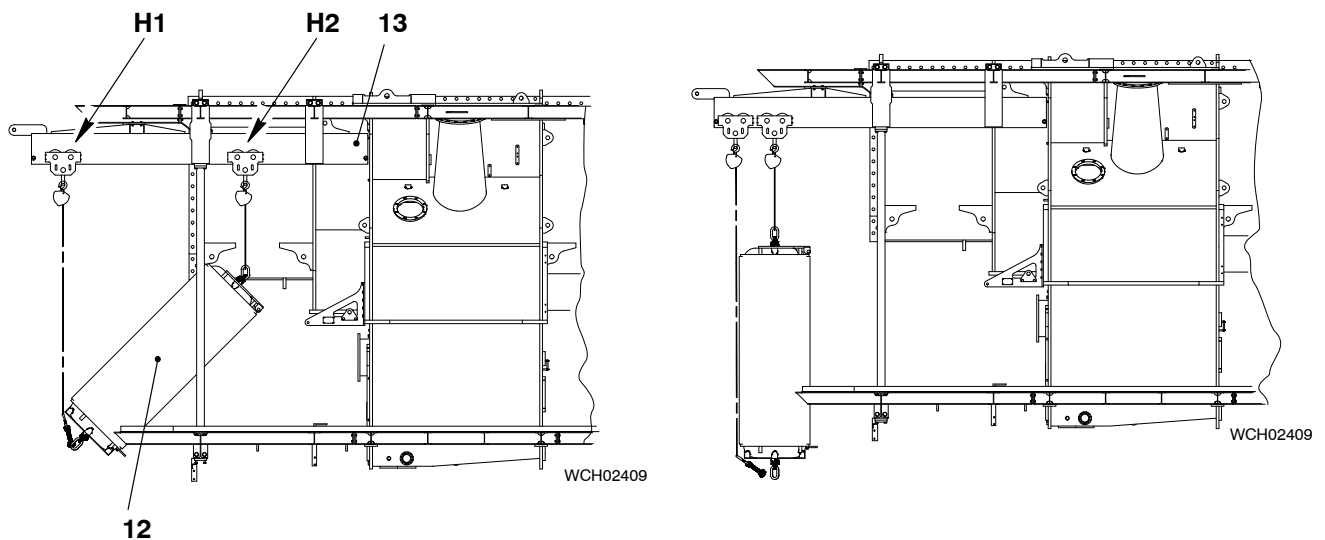

Fig. 13
- 24) Carefully operate the chain block (H1, Fig. 13) to lower the front of the SAC (12). At the same time, carefully move the chain block (H2).
- 25) Continue with step 24) above until the SAC (12) is in a vertical position.